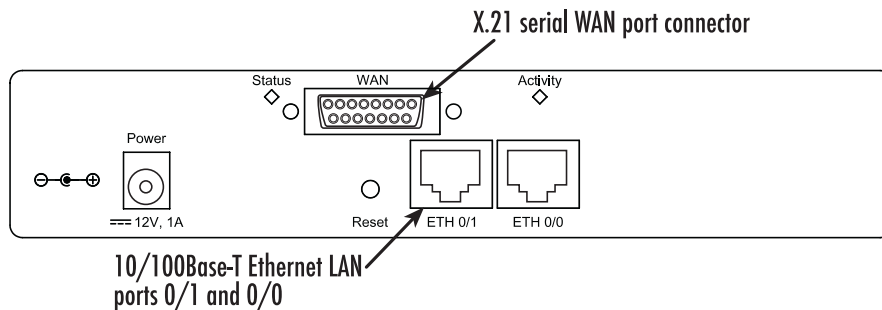
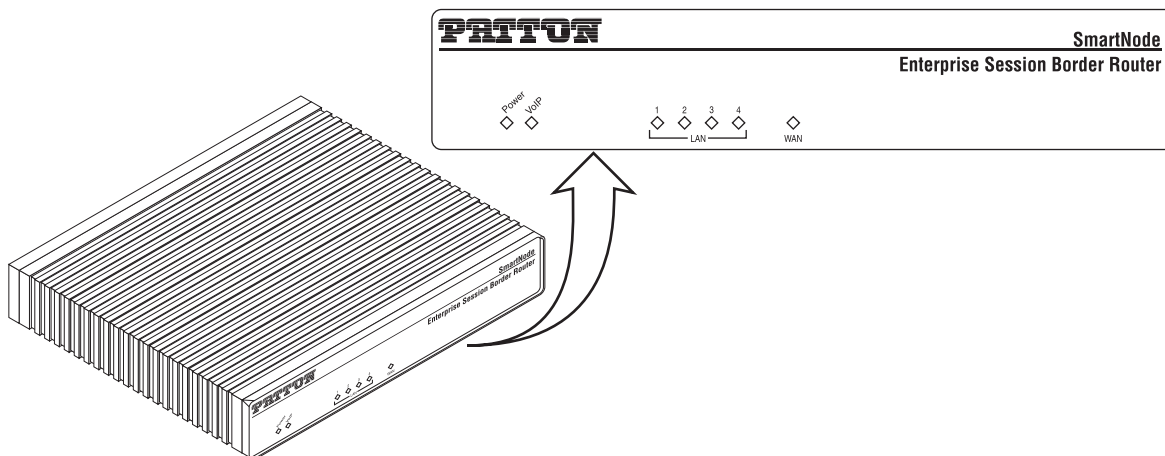

Figure 3. SmartNode 5221 rear panel
Figure 4. SmartNode 5200 front panel
**Note** The SN5221 model adds a serial X.21 interface and has two Ethernet ports instead of four; see Figure 3.
WAN ETH 0/0	Auto-MDX Fast-Ethernet port, RJ-45 (see <a href="#">Figure 3</a> ), connects the unit to an Ethernet WAN device (for example, a cable modem, DSL modem, or fiber modem).
LAN (ETH 0/1) 1-4	Switched Auto-MDX Fast-Ethernet ports, RJ-45 (see <a href="#">Figure 3</a> ), connect the unit to an Ethernet LAN (for example, a PC, printer, or wireless bridge).
5V DC, 1.0A	The Model 5200 has a 5V DC power input (see <a href="#">Figure 3</a> ).
Reset	<p>The reset button (see <a href="#">Figure 3</a>) has three functions:</p> <ul style="list-style-type: none"> <li>Restart the unit with the current startup configuration—Press (for less than 1 second) and release the Reset button to restart the unit with the current startup configuration.</li> <li>Restart the unit with factory default configuration—Press the Reset button for 5 seconds until the Power LED (see <a href="#">Figure 4</a> on page 17) starts blinking to restart the unit with factory default configuration.</li> <li>Restart the unit in bootloader mode (to be used only by trained SmartNode technicians)—Starting with the unit powered off, press and hold the Reset button as you apply power to the unit. Release the Reset button when the Power LED starts blinking so the unit will enter bootloader mode.</li> </ul>
Figure 4 shows SmartNode 5200 LEDs, the LED definitions are listed in Table 3.